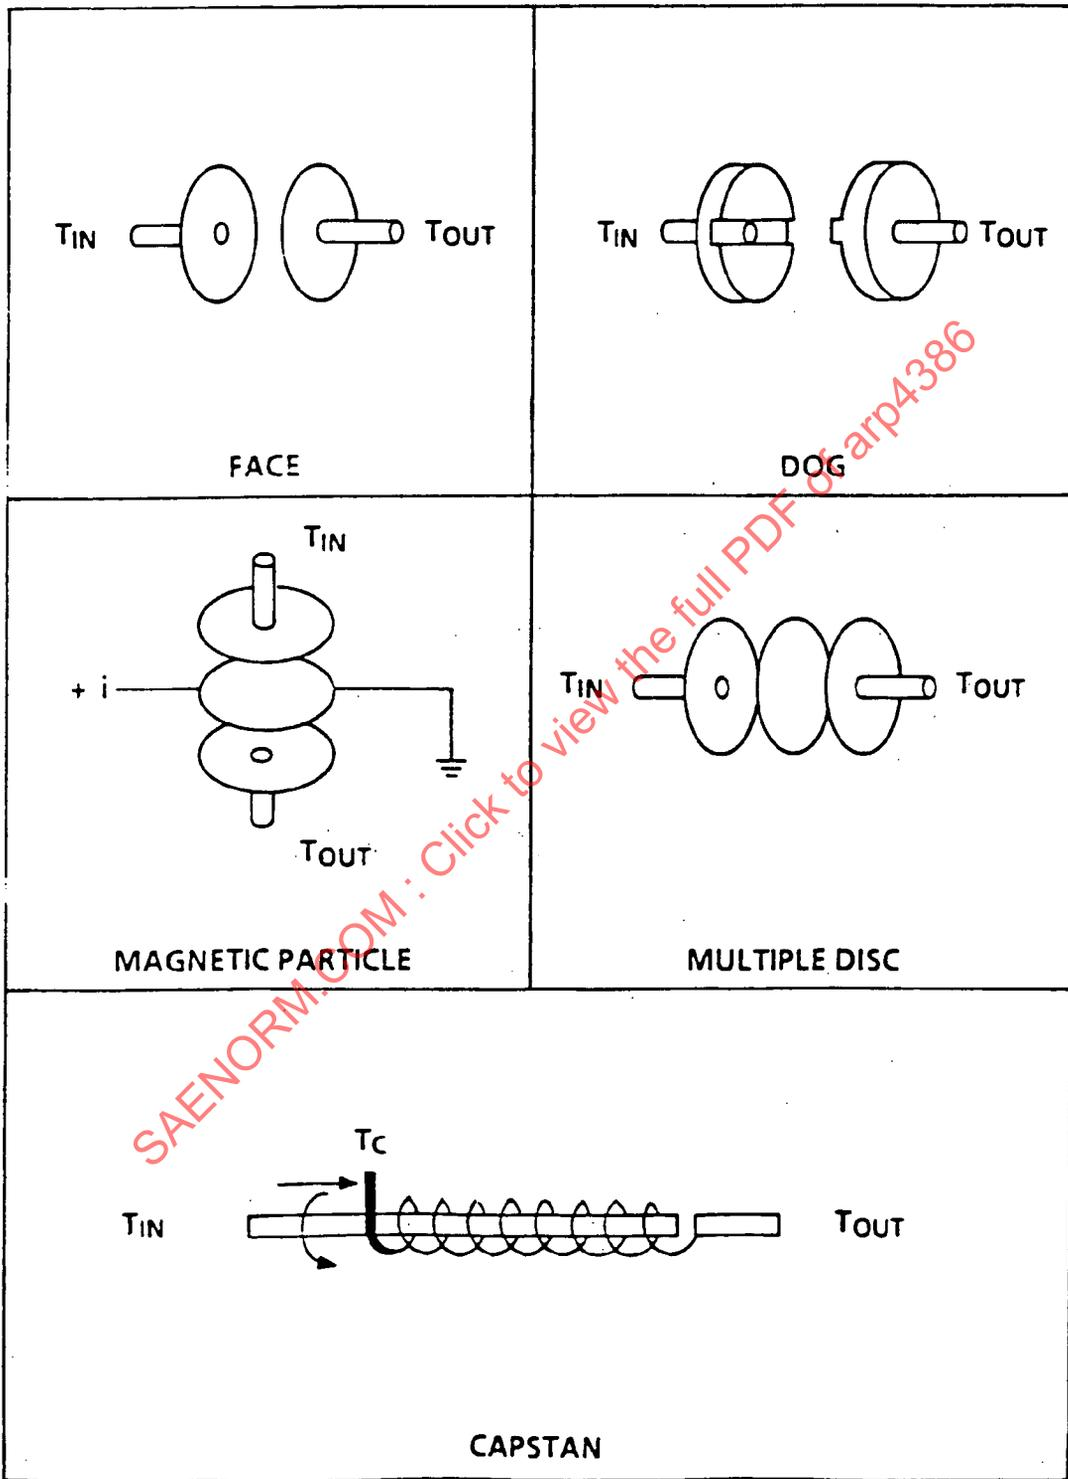

FIGURE 2 - Clutches
**CLUTCH:** A mechanical device that transfers or interrupts mechanical power from an input shaft to an output shaft. See Figure 2 for various types.